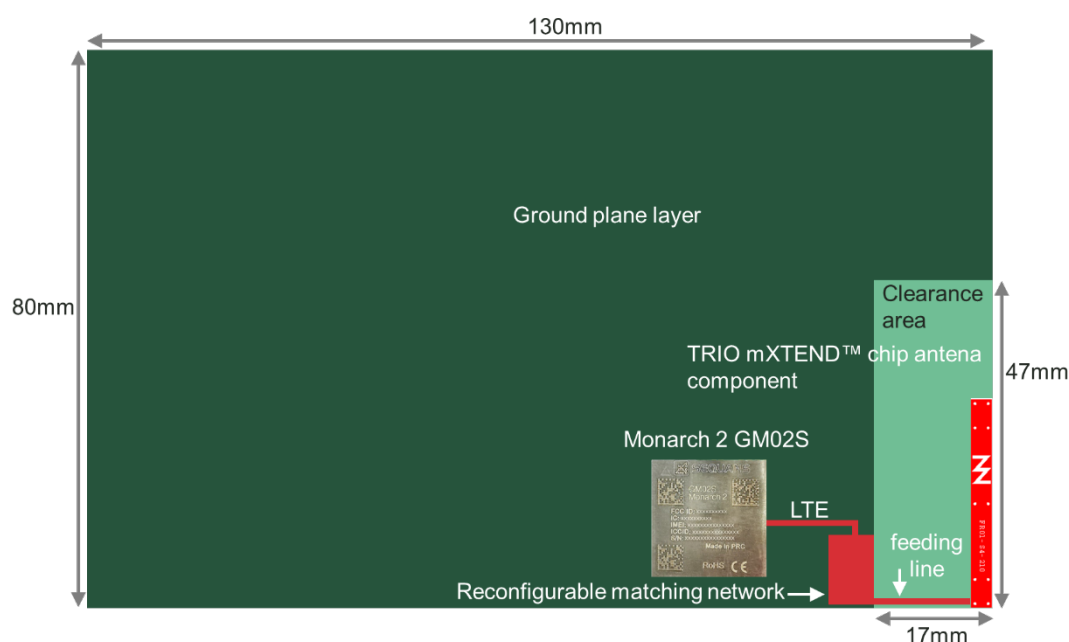

Figure 1 – Layout recommendations
On its starter configuration, NEKTAR-B has been optimized following these general guidelines and recommendations (Figure 1):
1. **Antenna placement:** Place the TRIO mXTEND[™] (NN03-310) chip antenna component as close as possible to a PCB corner aligned with the longest side of the PCB. On the other hand, place the antenna as far as possible from other components, such as LCDs, batteries, connectors, especially those components and covers with metallic characteristics (see suitable placement in Figure 1).